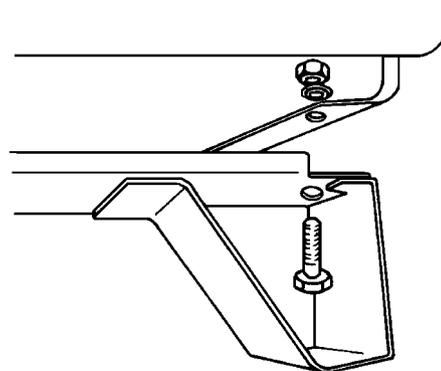

fig. 23
- Fix the two legs by means of screws and nuts delivered together with the appliance (fig. 23).